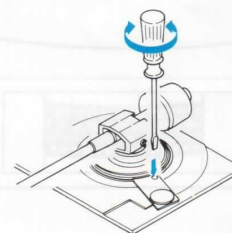

Fig. 10
- In the automatic operation, turn the adjusting screw clockwise or counter-clockwise as shown in Fig. 10 so that the stylus tip will correctly set down on the lead-in groove of the record.